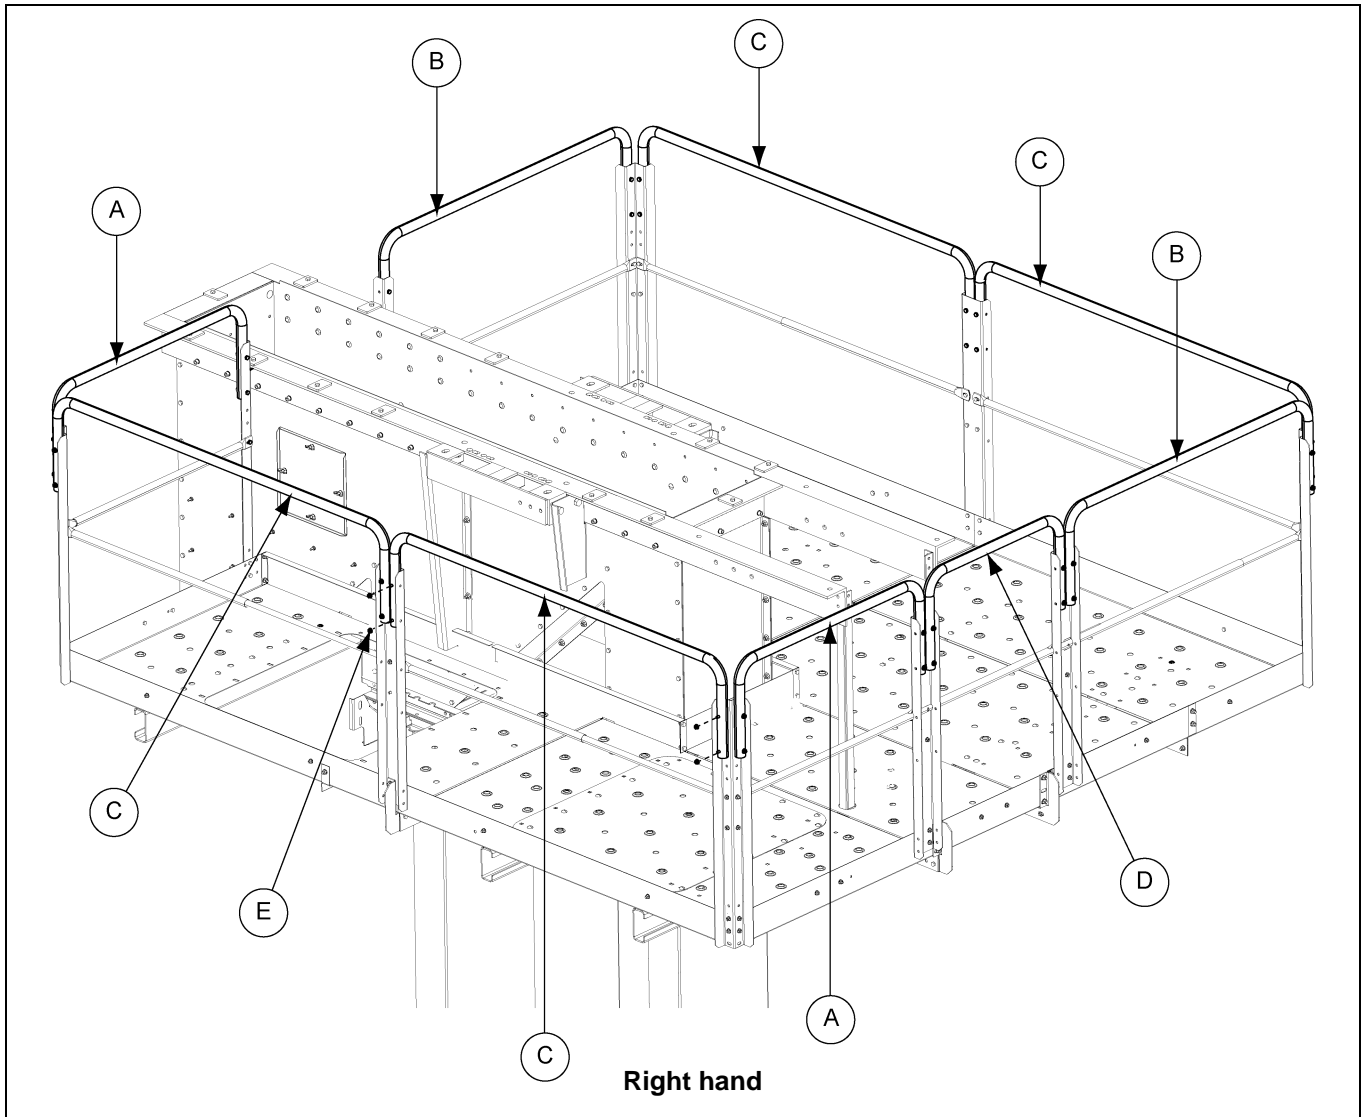
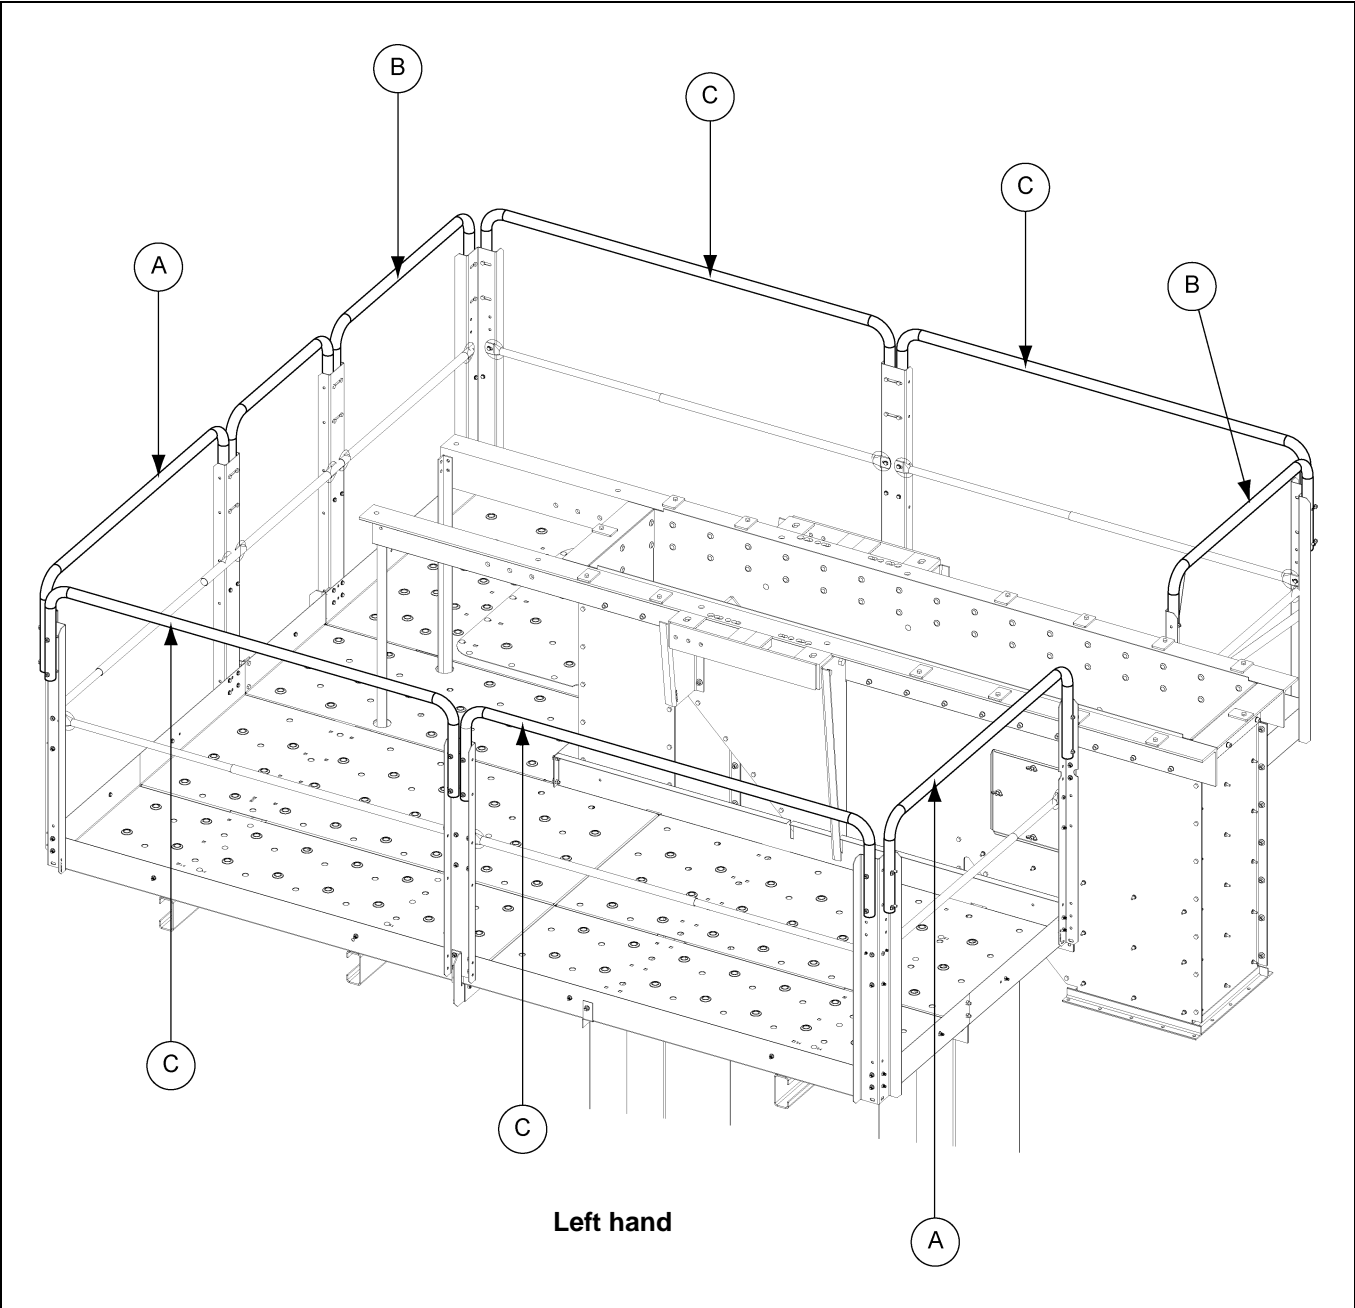

Figure 10L Right Hand Drive Rail Locations
Figure 10M Left Hand Drive Rail Locations
1. Attach handrails to the handrail posts using 5/16" x 2" bolts (S-7877) and hex nuts. Use Figure 10L below and Figure 10M on Page 91 for handrail location.